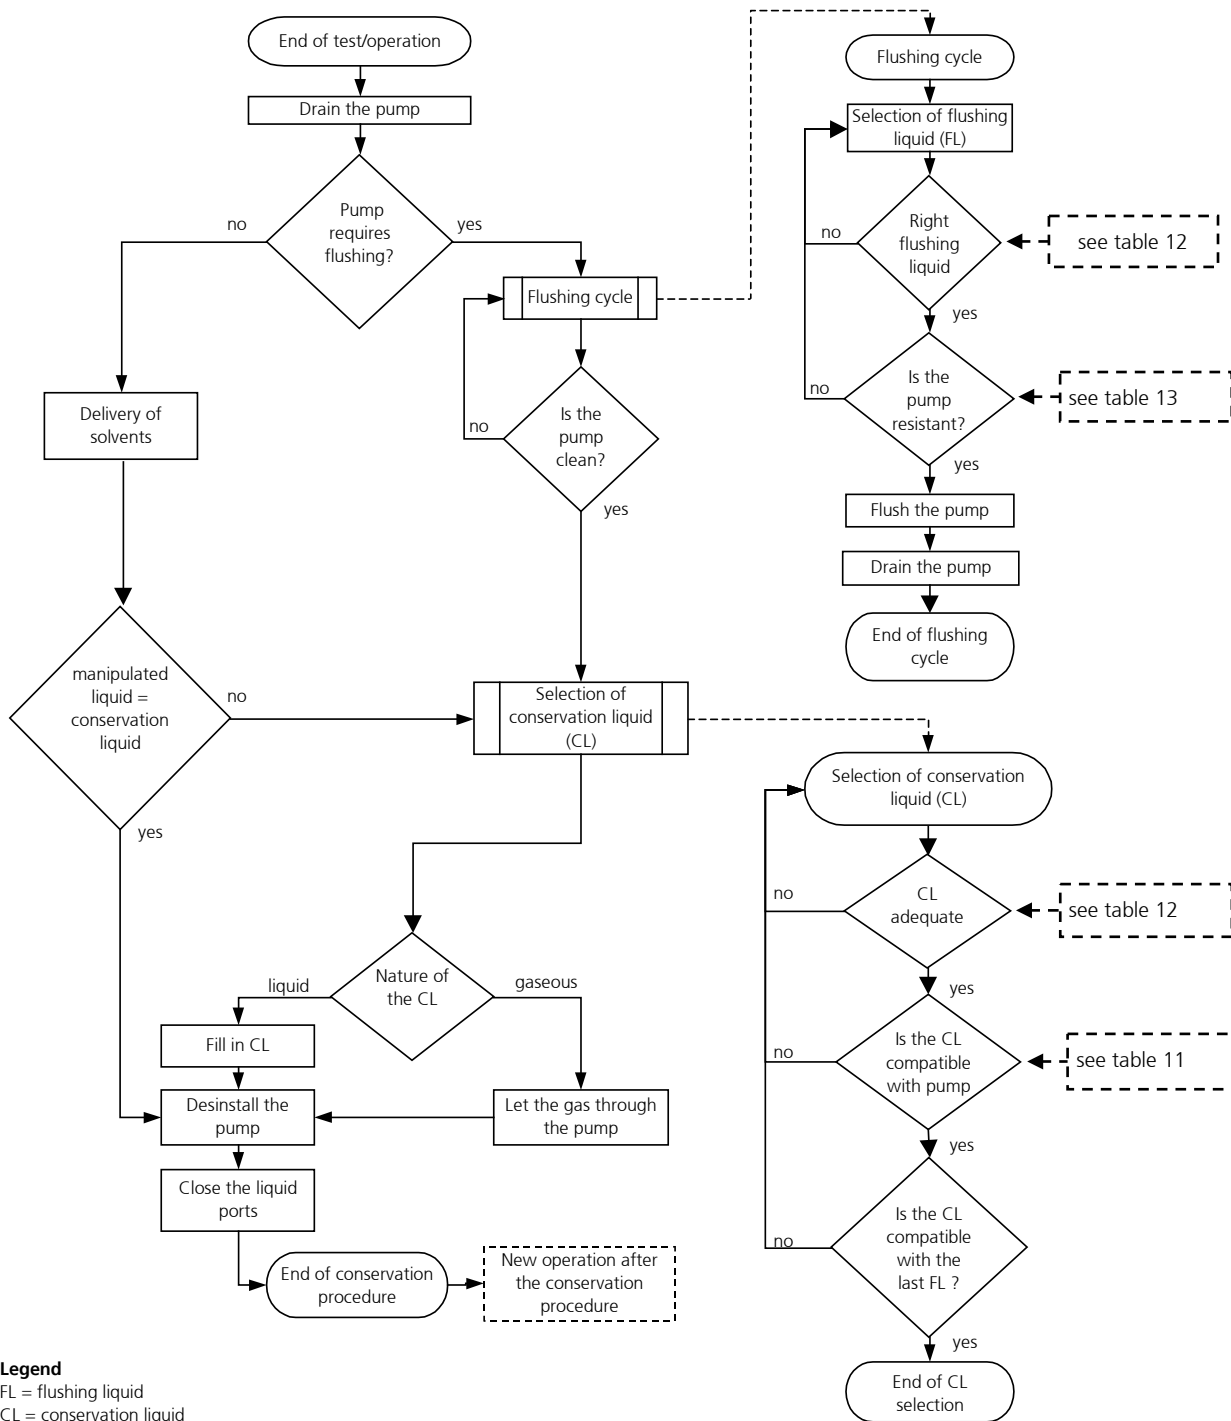

figure 21 Shutdown procedure
By proceeding as shown in the diagram (see figure 21) you may prepare the pump for a longer standstill.
*Remark:* This diagram is repeated as a part of the figure 21 »Shutdown procedure«.